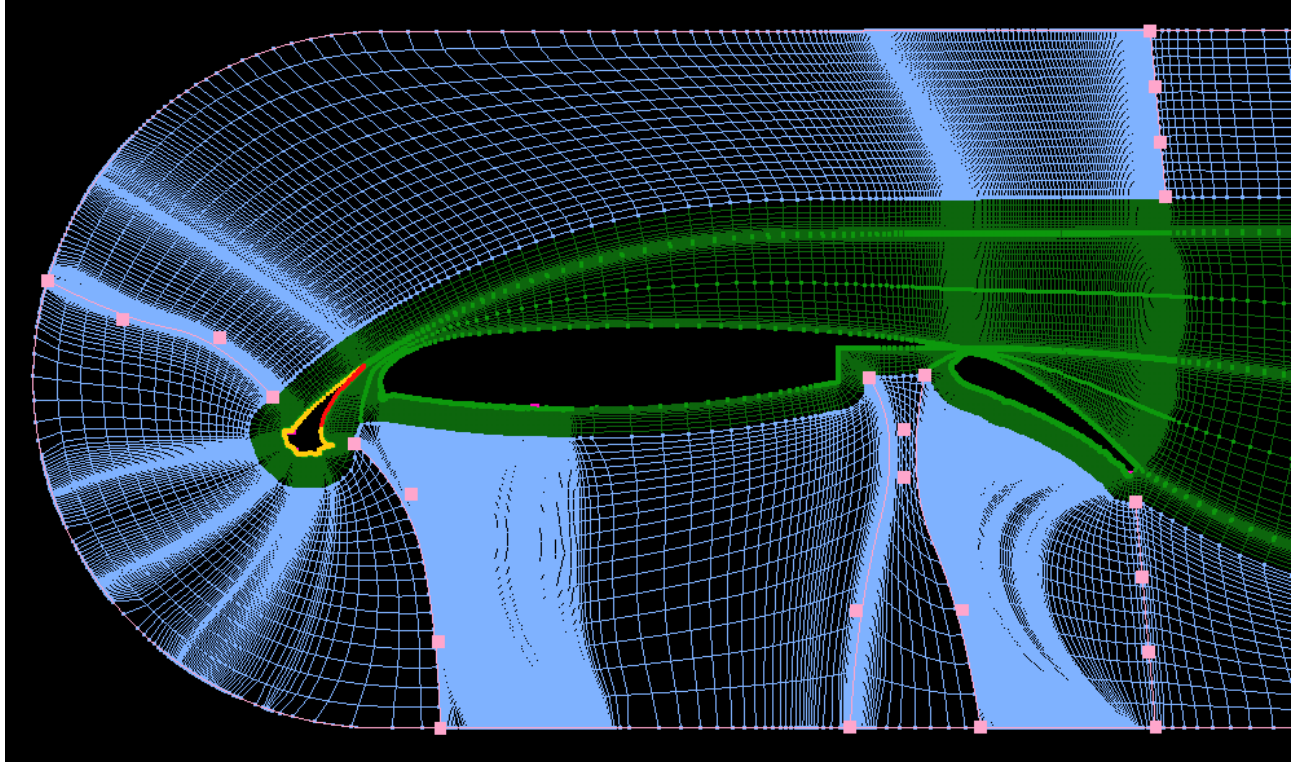

Figure 34. Control point locations for defining near field blocks on multi-element airfoil.
- Move the critical points to approximate those shown below in Figure 34.